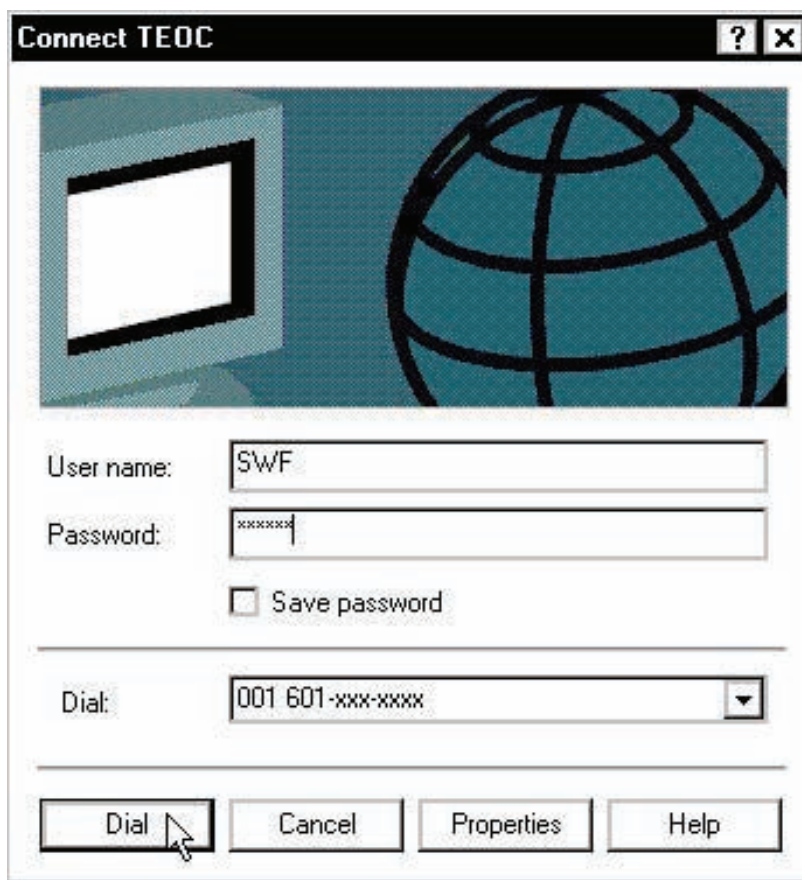

Figure 31. Pressing Dial on the Connect TEOC window.
- When the ADTRAN displays Bonding 128K, press the Dial button on the “Connect TEOC” window. (See Figure 31.) The system will verify your user name and password.